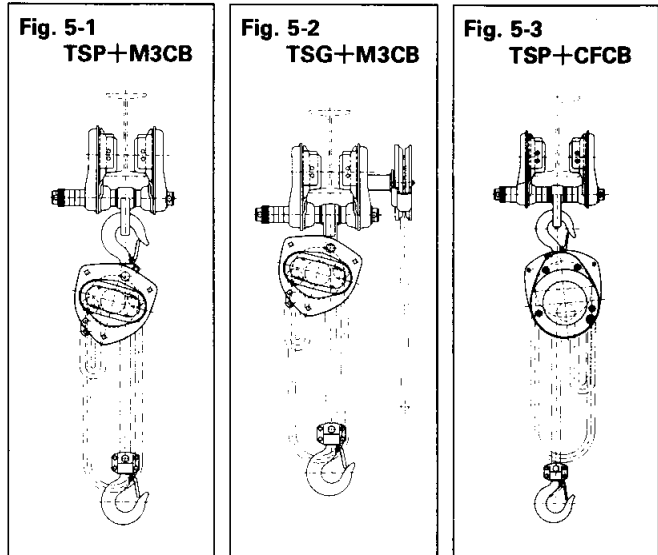

Fig. 5-4 Mounting suspender C
- (3) Direct coupling method of M3 series chain hoist.
- (a) For 0.5 to 2.5t (Refer to Fig. 5-4)